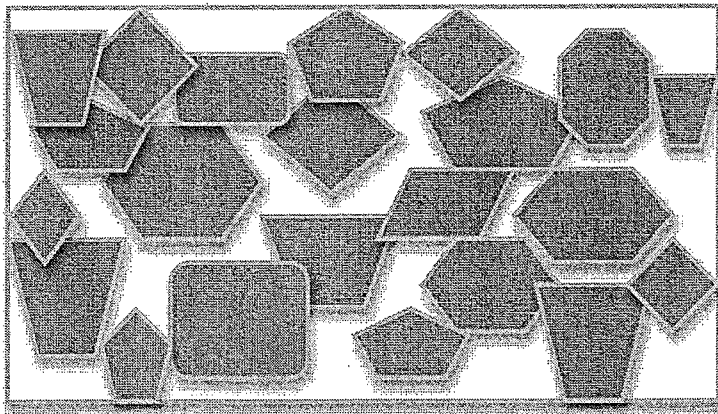

Fig. 1. Schematic illustration of an SEM image, obtained using backscattered electrons, of a planar surface.
a) Assume that the image in Fig. 1 has been recorded using backscattered electrons. It shows two phases, i.e. ZnO and  $\text{Bi}_2\text{O}_3$ , in a ceramic material. The contrast reveals which phase is which. Which phase is ZnO? Explain your answer. (2p)